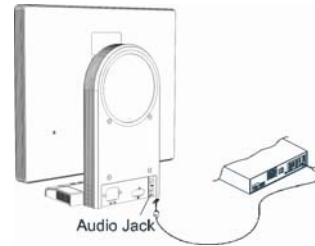

Figure 1-5
1. Connect the audio cable to the " LINE OUT " jack on your PC's audio card or to the front panel's "AUDIO OUT" jack of your CD ROM drive. (See Fig. 1-5)